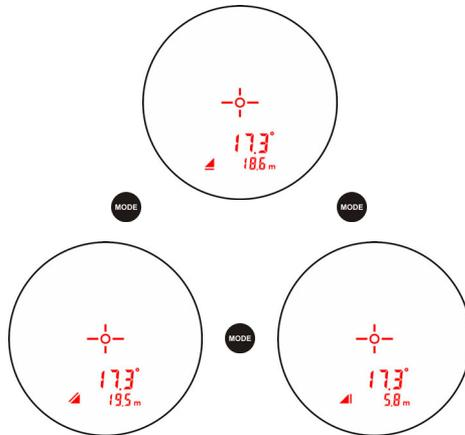

Figure 25
5. Press the  button to toggle through the various measurement types. Using Figure 25 as an example, Inclination =  $17.3^\circ$ , HD = 18.6 m, VD = 5.8 m and SD = 19.5 m.